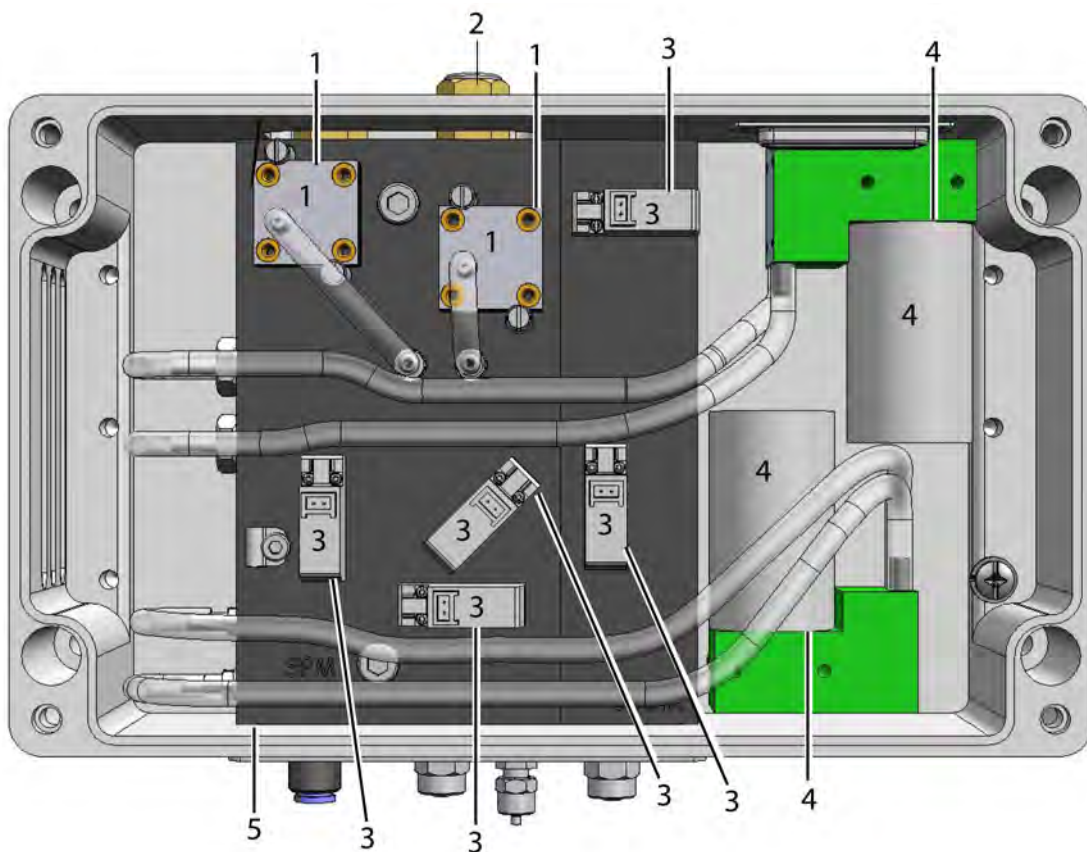

Figure 1 Main parts.
- two pumps. See Figure 1.
Table 1 Key to Figure 1.